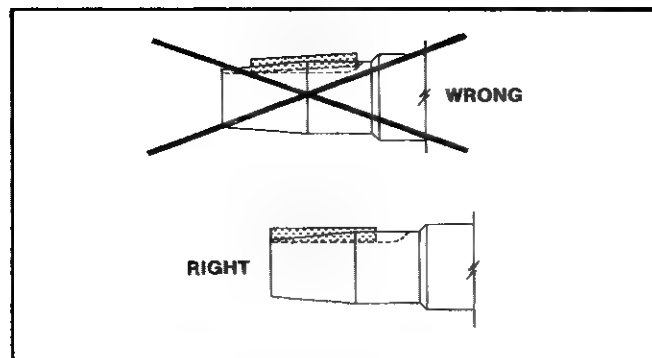

FIGURE 11-8 -- RIGHT AND WRONG WAY TO INSTALL FLYWHEEL KEY
2. Position key properly in keyway as shown in Figure 11-8 and carefully guide key slot in flywheel hub over the key (if generator belt pulley is used, install belt before placing flywheel on shaft).